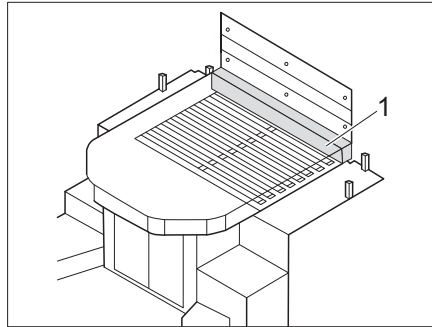

Fig. 173 Bed extension - variant 1
- Place additional mattress (Fig. 173,1) on the front side of the queen bed.